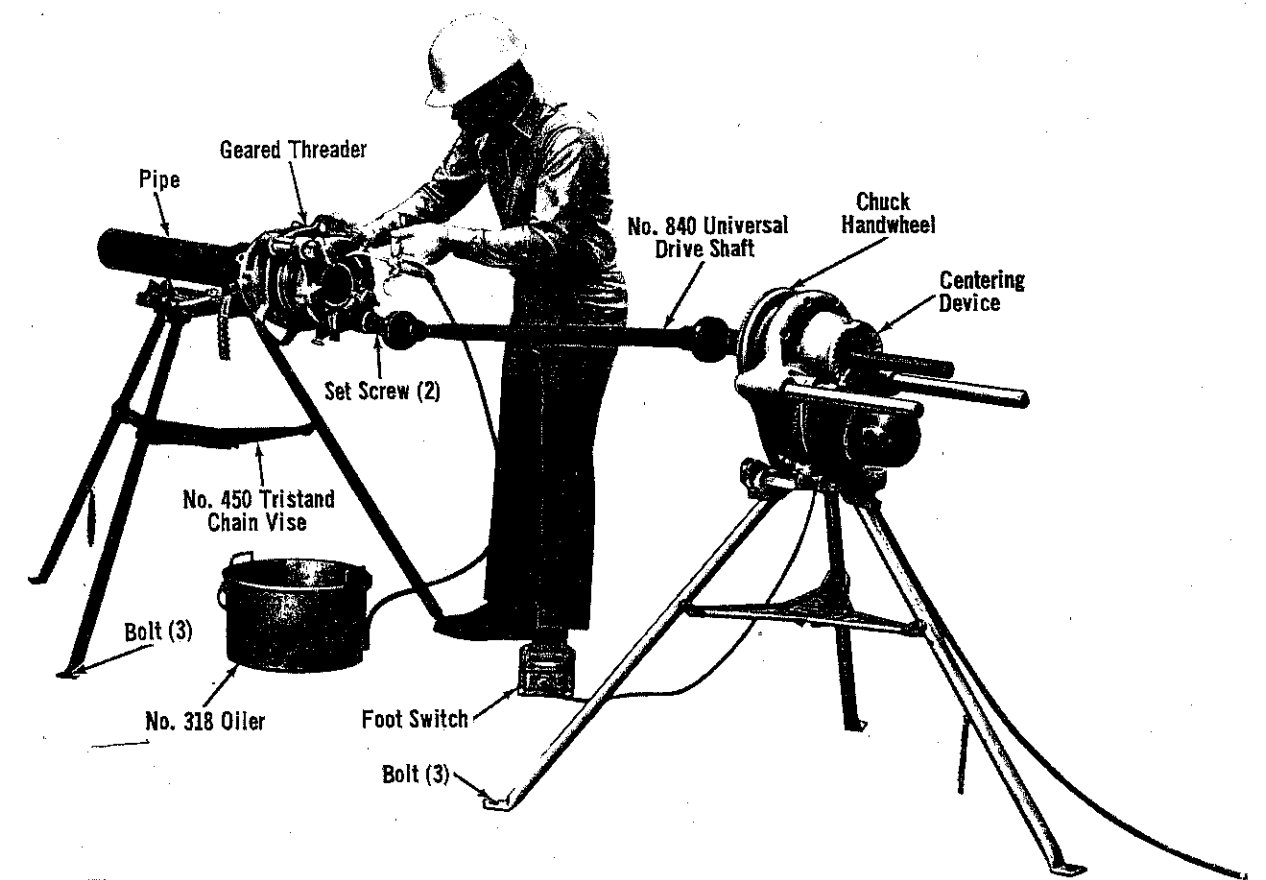

Figure 19. Threading with Nos. 141, 161, and 4PJ Geared Threaders using No. 840 Universal Drive Shaft.
Installing Nos. 4PJ, 141 & 161 Geared Threaders Using No. 840 Universal Drive Shaft (Fig. 19)
1. Loosen 2 Set Screws (Fig. 19) and remove Universal Drive Shaft from Threader.